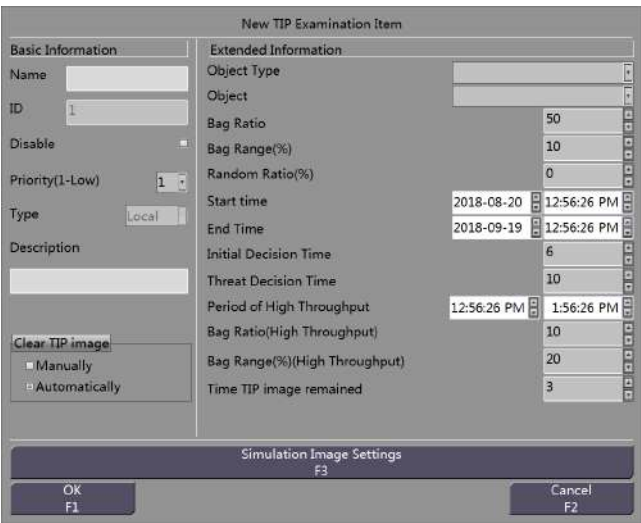

Figure 16-3 New TIP Examination Item Interface
Step 3 Click “Add” to display the New TIP Examination Item interface, as shown in Figure 16-3. Enter the required information.
Step 4 Click “Simulation Image Settings” in Figure 16-3 or press “F3” key to display an interface, as shown in Figure 16-5.